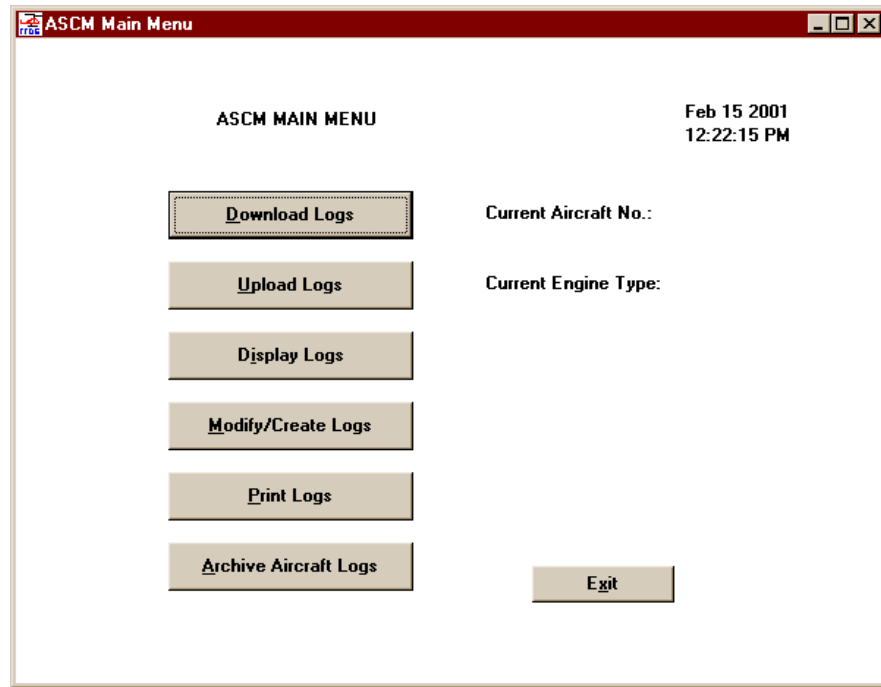

Figure 16. ASCM Main Menu Screen
3. Click on the "Download Logs" control button (refer to Figure 16).
2. Click on the "ASCM Menu" control button (refer to Figure 8) then click on the "Upload Logs" control button (refer to Figure 16).
2. Click on the "Display Logs" control button (refer to Figure 16).